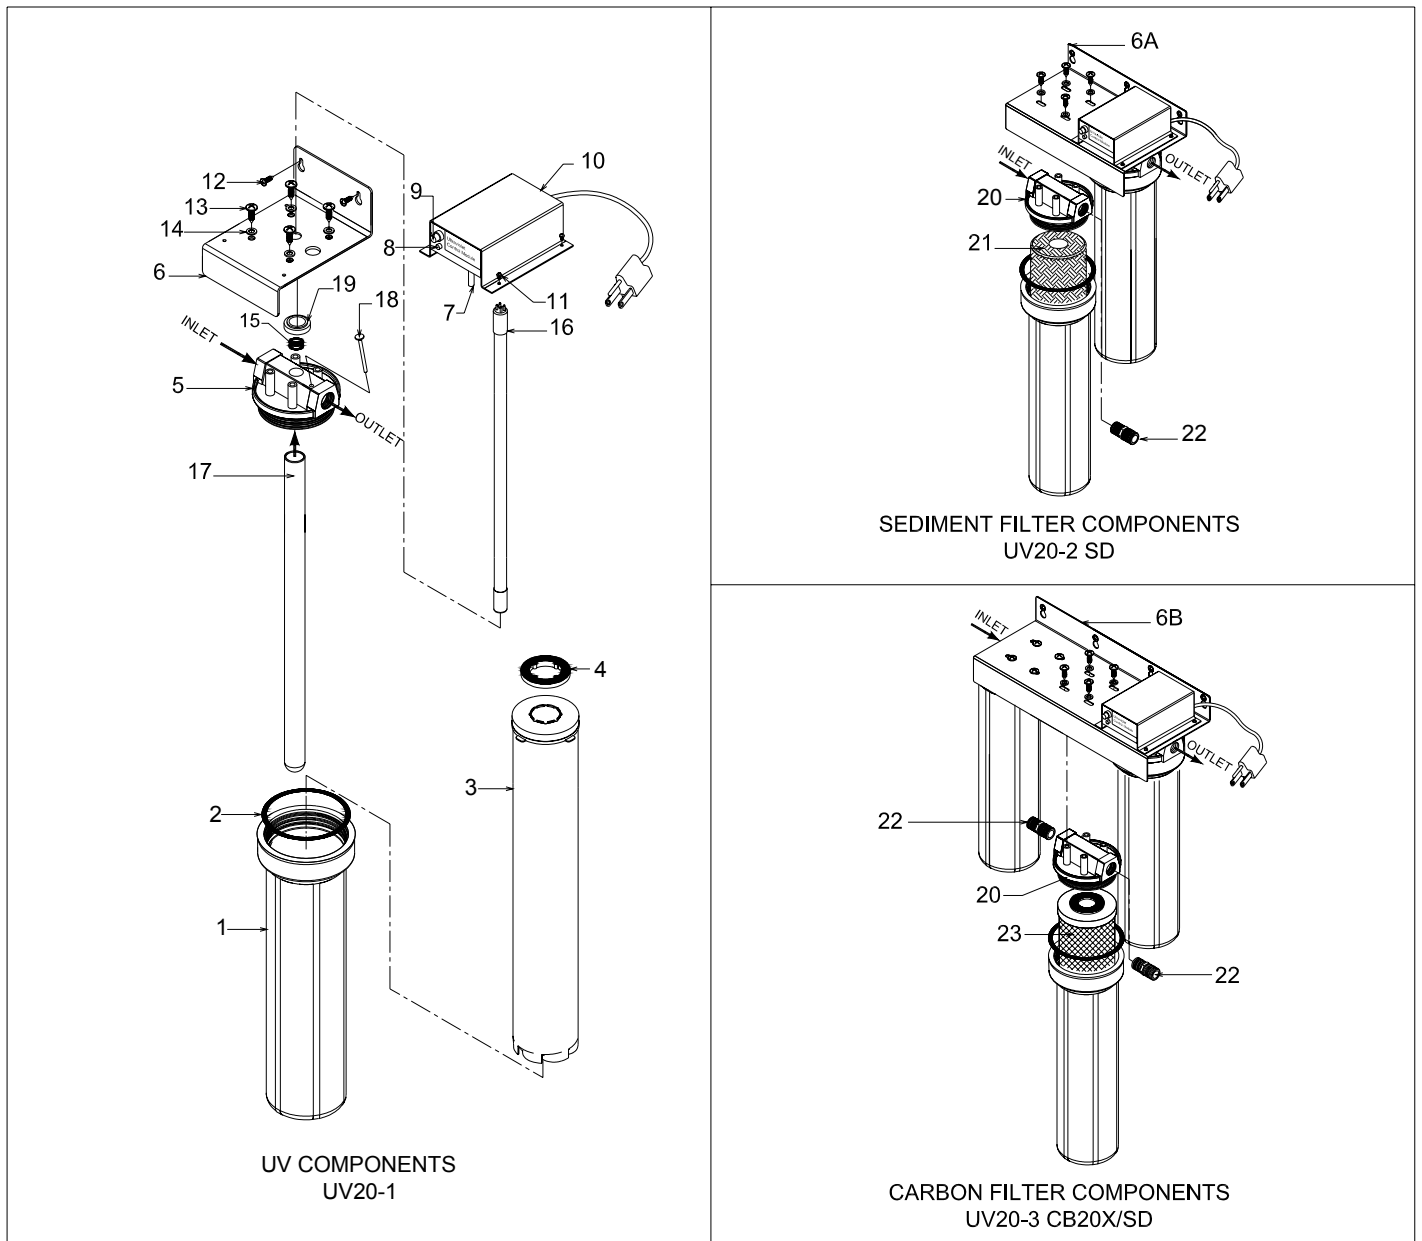

Figure 2 Exploded Schematic, PURA UV20 Series
NOTE: All Items refer to Figure 2.
2. Verify Stainless Steel Channeling Sleeve (Item 3) and Sleeve Gasket (Item 4) are in sump as shown in Figure 2.
4. **For UV20-2 & UV20-3 Models only:** Remove Sump (Item 1) from Filter Head (Item 20). Install Filters (Items 21 and 23) as shown in Figure 2. Install sump onto filter head.
CAUTION: Verify that inlet and outlet ports are connected to appropriate inlet/outlet pipes (see Figure 2).